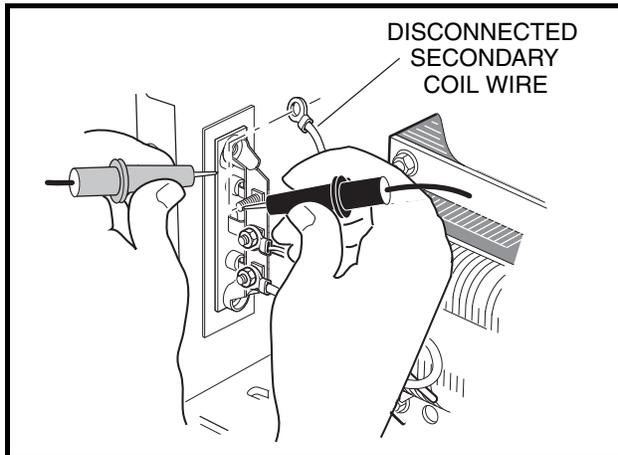

Figure 4-13 Diode Test
- Disconnect one transformer secondary coil wire from the diode terminal (**Figure 4-13, Page 4-15**).
- Using a low voltage continuity tester or multimeter set to the diode test function, connect the red (+) test probe to the diode mounting plate and the black (–) test probe to a diode terminal and note the reading (**Figure 4-13, Page 4-15**).